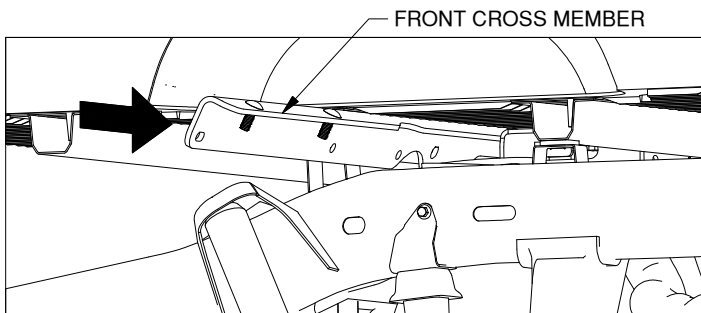
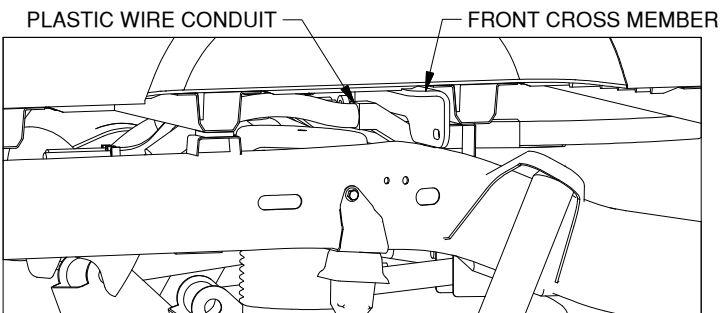

Figure C2: View looking into driver side wheel well.
Figure C3: View looking into passenger side wheel well.
2. **Place front cross member.** The cross member will be installed from the driver side, just in front of the rear tire. Insert the cross member between the bottom of the bed and the top of the frame, as shown in Figure C2. Carefully slide the cross member over the two tubes, and a plastic wire conduit present under the truck bed, see Figure C3. Center the cross member over both frame rails.